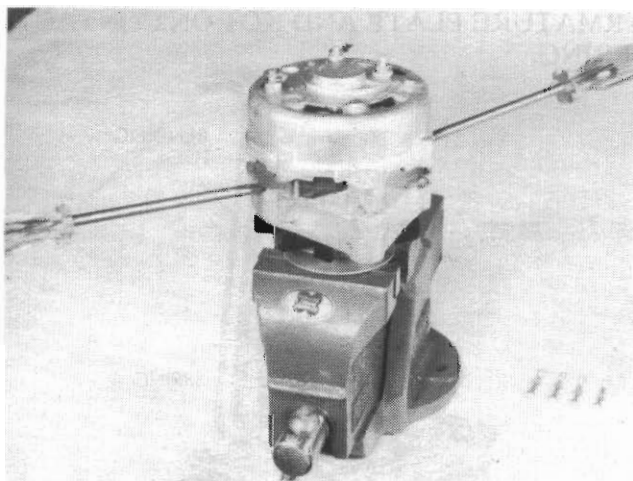
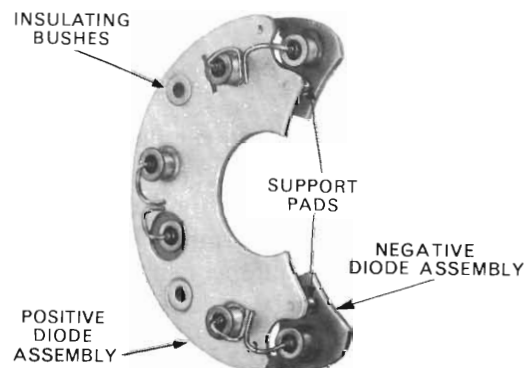

Fig. 12 - Separating the Stator and Slip Ring End-Head from the Drive-End End-Head
Fig. 13 - Alternator diode assemblies
(1) Before disassembling, mark the stator to end shield locations then remove the through bolts and carefully separate the stator from the drive end head with the blades of two screwdrivers, 180° apart, taking care not to damage stator windings. Never pry between the stator and slip ring end head (refer Fig. 12). Be careful not to lose the brushes and springs which will fall out of the holders as the rotor is withdrawn. Inspect parts for "poling" or evidence of overheating.
(2) The brush holders may be taken from the end-head by removing the two stud nuts taking care to note the assembly of insulating washers and bushes in order that these may be reassembled in the correct manner.
(3) The negative assembly is mounted within the alternator slip ring end head so as to ground the heat sink section of the assembly, and the positive assembly is adjacently located but insulated from the negative assembly (refer Fig. 13).